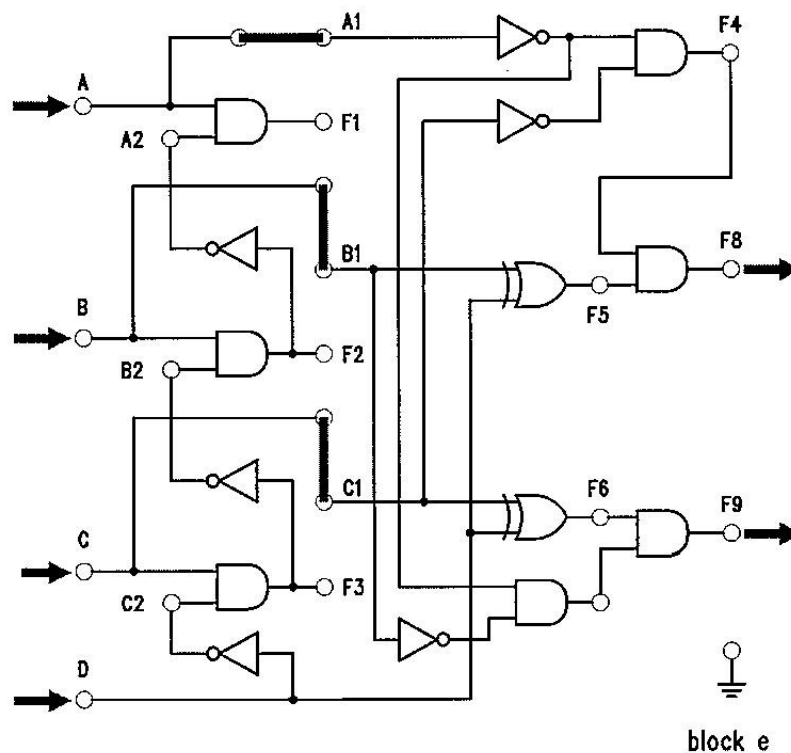

Figure 8.1
**8.1** Construct the circuit shown in Figure 8.1. Connect inputs A ~ D to toggle switches in order and outputs F8 and F9 to logic indicators. Follow the input sequence shown in Table 8.1 of the result sheet and record the results in **Column A**.